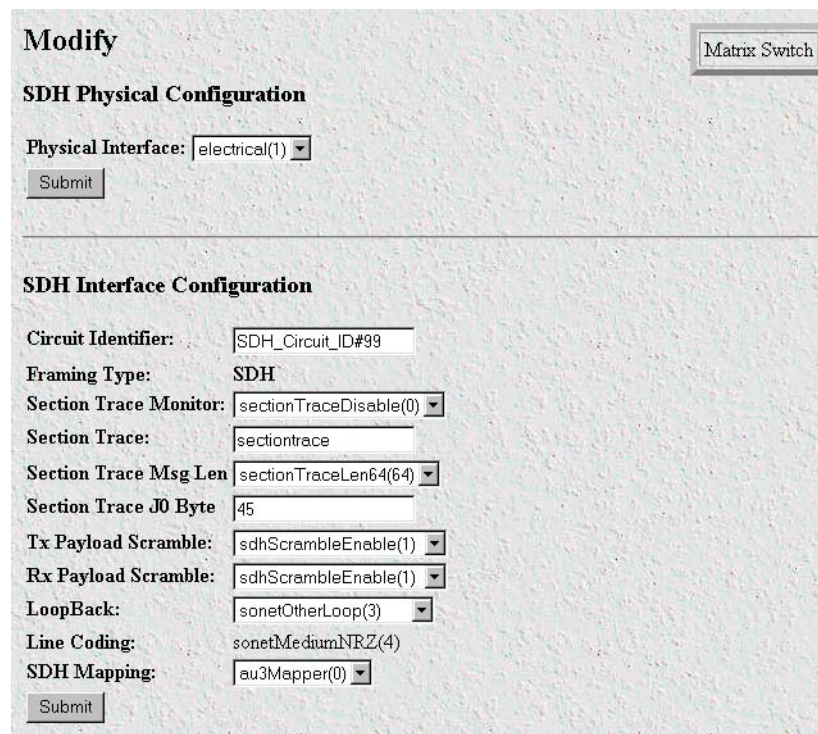

Figure 45. SDH Modify page
2. At the top of the *SDH Overview* page, click the *Configuration* hyperlink to open the *SDH Modify* page (see figure 45).